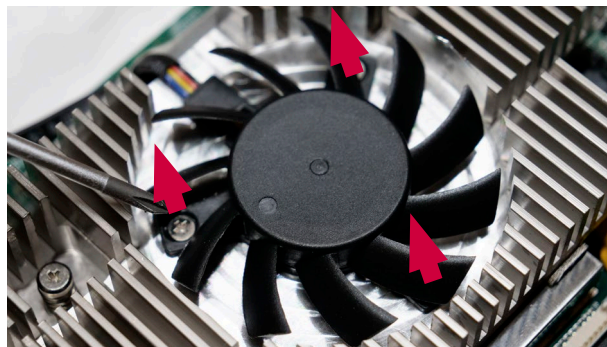

Figure 24 Remove the screws from the fan
b) Untighten the three screws holding the fan in place (Figure 24)
- f) Insert and tighten the three screws (max. torque 0.3 Nm) holding the fan in place (see Figure 24)